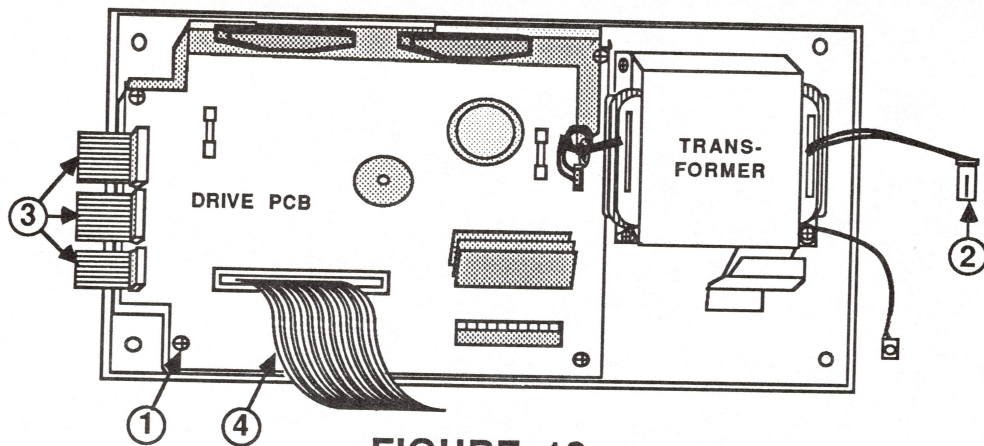

FIGURE 19
12. Disconnect the plug cable running from the right leg to the transformer on the bottom cover (see Figure 19, #2).
2. Connect the plug cable running from the right leg to the bottom cover (see Figure 19, #2).
3. Flip the bottom cover into place, lift the left hand side of the bottom cover and connect the three connectors (see Figure 19, #3).
4. Lift the rear portion of the bottom cover, and connect the large gray ribbon cable (see Figure 19, #4).
9. Connect the grounding connector to the spade on the corner of the drive PCB (see Figure 19, #1).